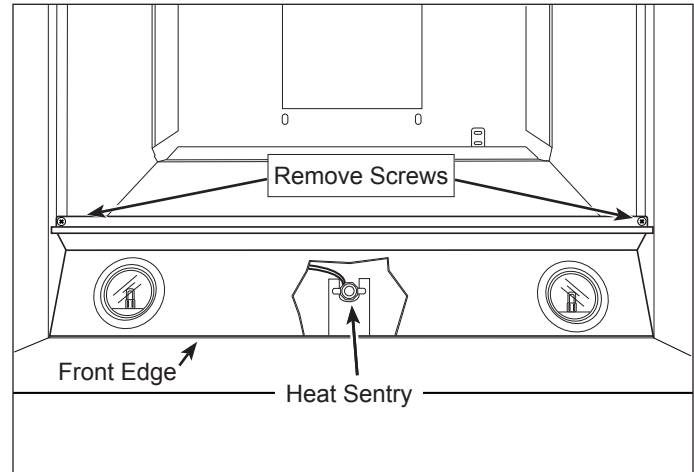

Figure 4-4 Lamp-holder Support Removal
To remove the heat sentry, the filters must be removed first, then (See Figure 4-4):
To remove the lamp-holder support, the filters, heat sentry and the lamp assemblies must be removed first, (See Figure 4-4):
1. Extract screws from corners of lamp-holder support. (See Figure 4-4)